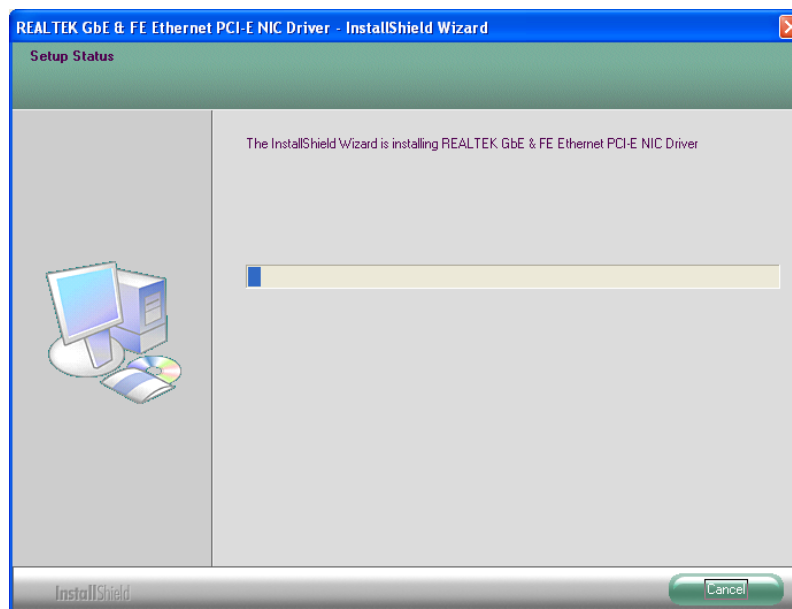

Figure 6-17: LAN Driver Installation
Step 7: The installation progress can be monitored in the progress bar shown in **Figure 6-17**.